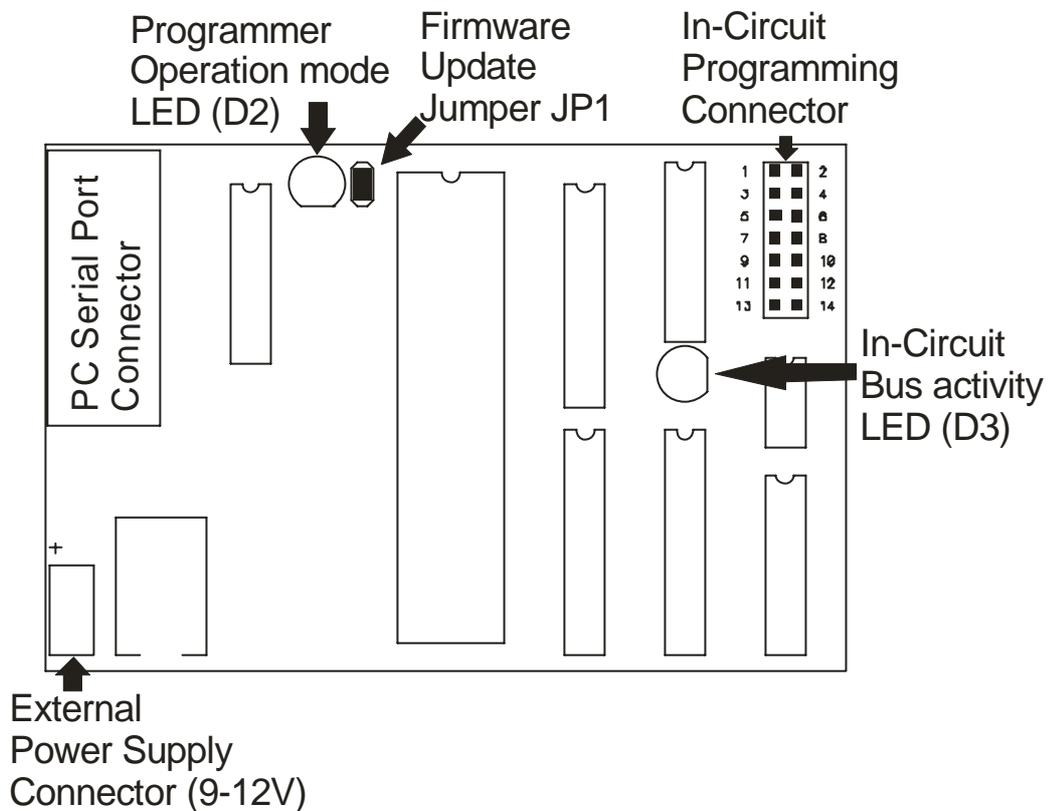

Figure 1. The **uPD78-Programmer** board layout
The **uPD78-Programmer** includes two LED's and mode jumper (Figure 1). Color LED's indicates programmer state and external power supply voltage (Table 1, 2).
- Insert jumper JP1 (see Figure 1).
- Remove JP1 (see Figure 1).
- Power-up the uPD78-Programmer. LED D2 (see Figure1) will light green.